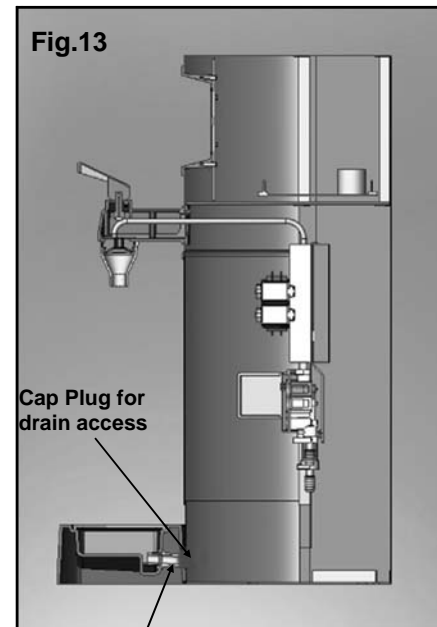

Fig.13
2. Remove black Cap Plug from lower tower skirt (Fig.13).